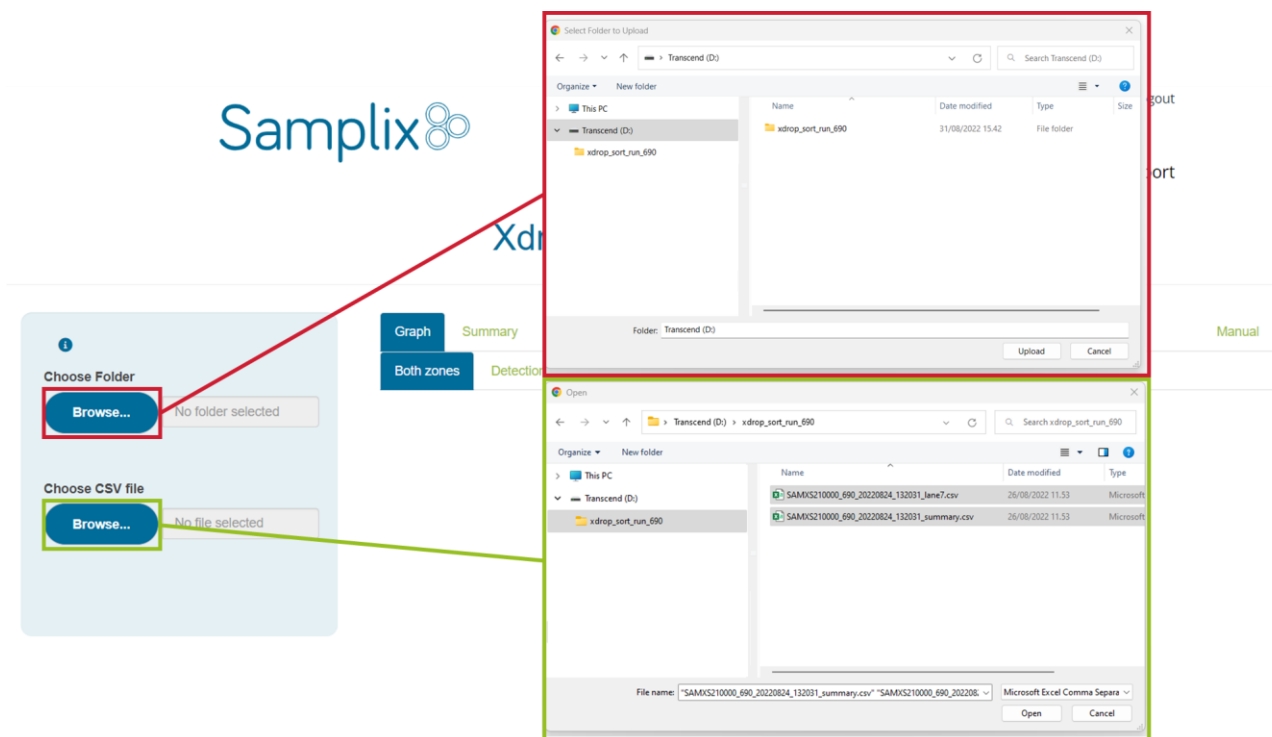

Fig. 4.2. Use the browse button to upload your Xdrop Sort run.
1. Click Browse under Choose folder to select the whole run folder or Browse under Choose CSV file to select CSV file(s) from your Xdrop Sort run (Fig. 4.2).